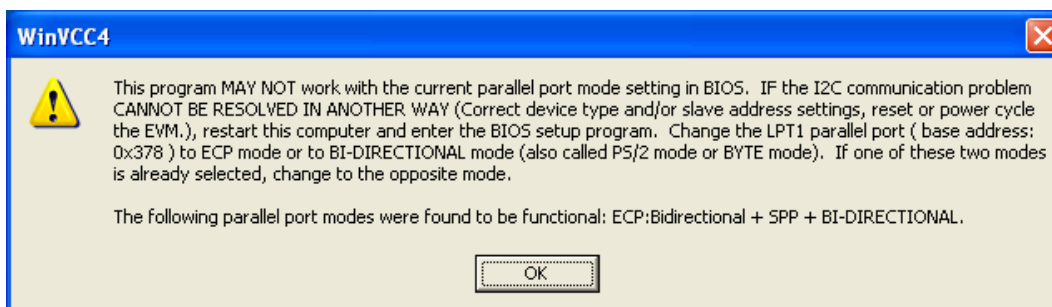

Figure 4-4. Corrective Action Required
- b. The dialog shown in Figure 4-4 is displayed because the I²C communication problem does not have an obvious cause. Click OK to continue.